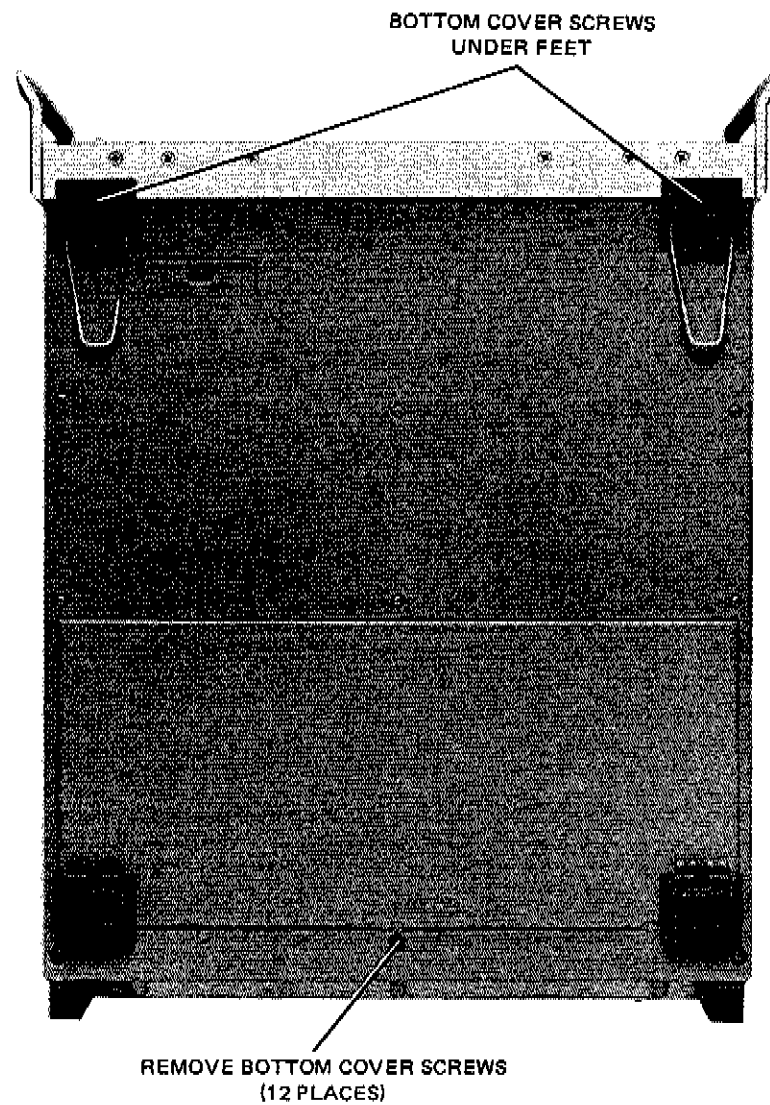

Figure 2. HP 70001A Mainframe Bottom View
3. Turn mainframe cabinet over and remove four bottom feet (lift TAB and slide). Loosen and remove 12 bottom screws as illustrated in Figure 2.